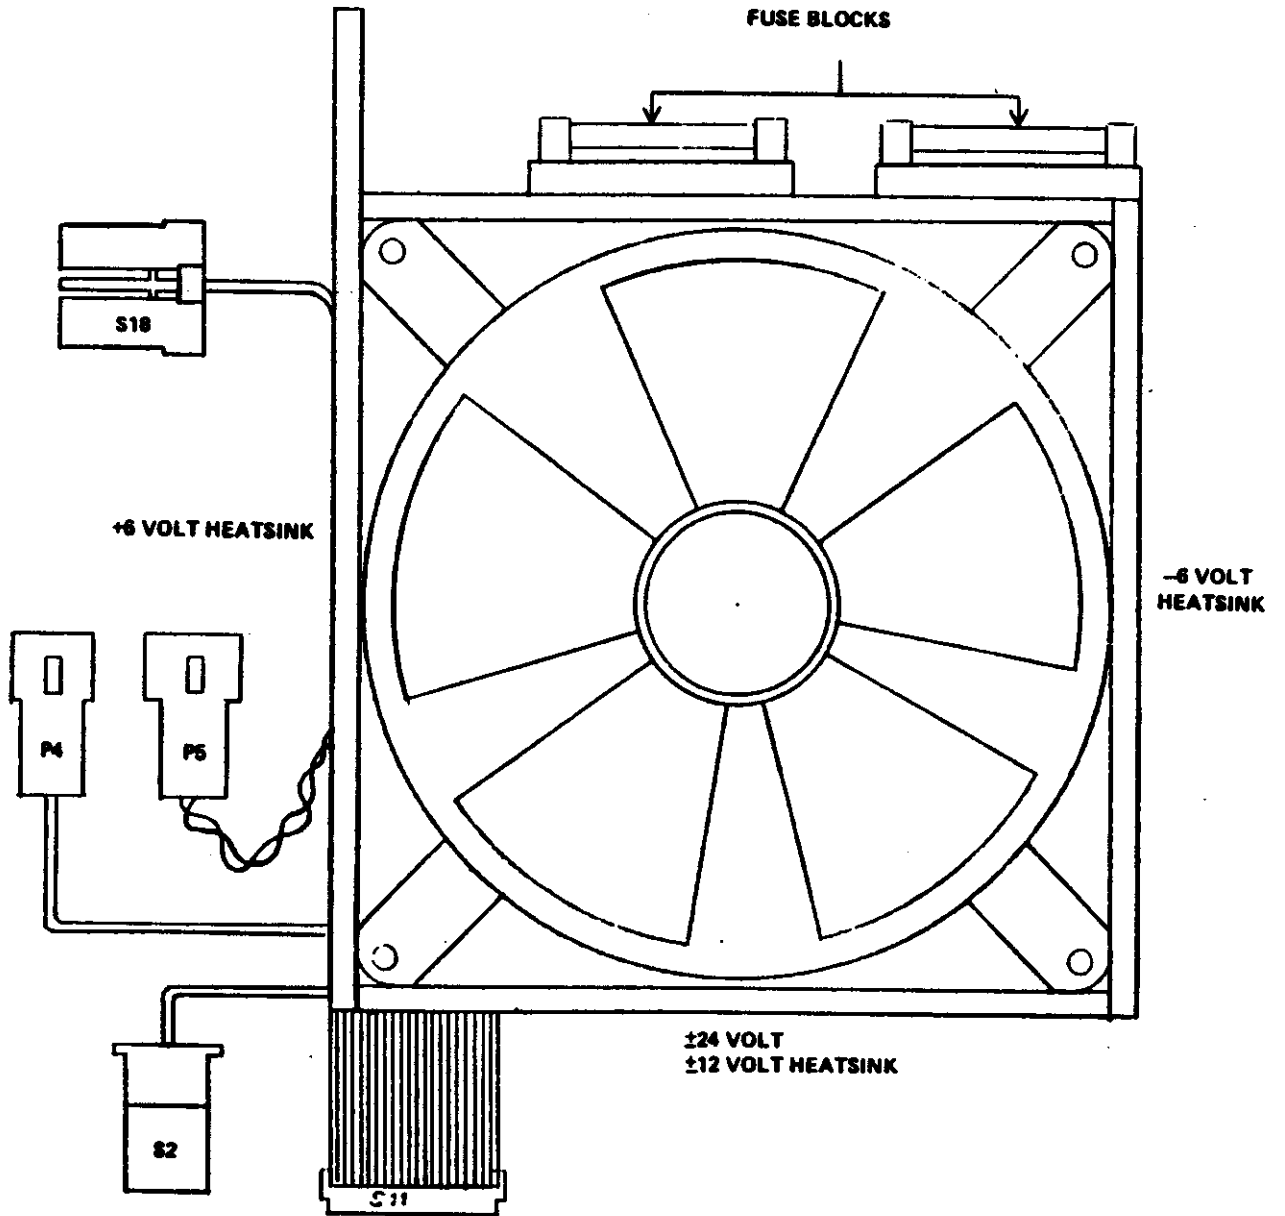

Figure 10 - Pass Transistor Assembly
5. Pass transistor assembly (Figure 10)